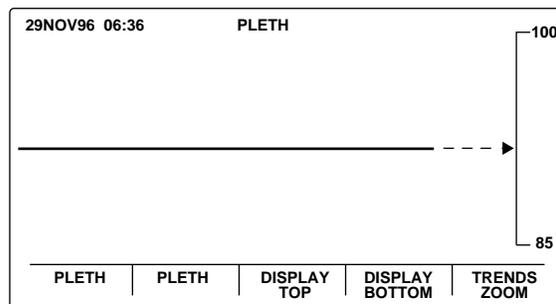

Figure 3-10: Pleth Waveform
7. Verify that a pleth waveform screen appears, similar to the one illustrated in Figure 3-10. The N-3000 SpO₂ alarm limits on the right-hand side of the screen will equal the current limits as determined by the N-3000 setting.